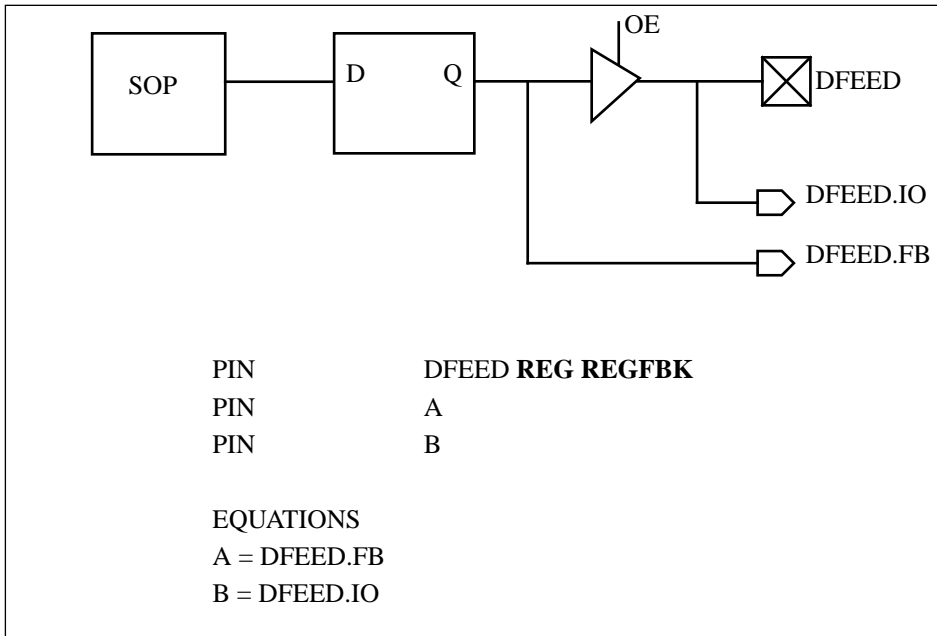

Figure 4-13 Registered Dual Feedback
- Figure 4-13 shows PIN A taking on the value of the register feedback path of DFEED, while PIN B takes on the value of the pin feedback path for DFEED. This is the default configuration for a registered output.